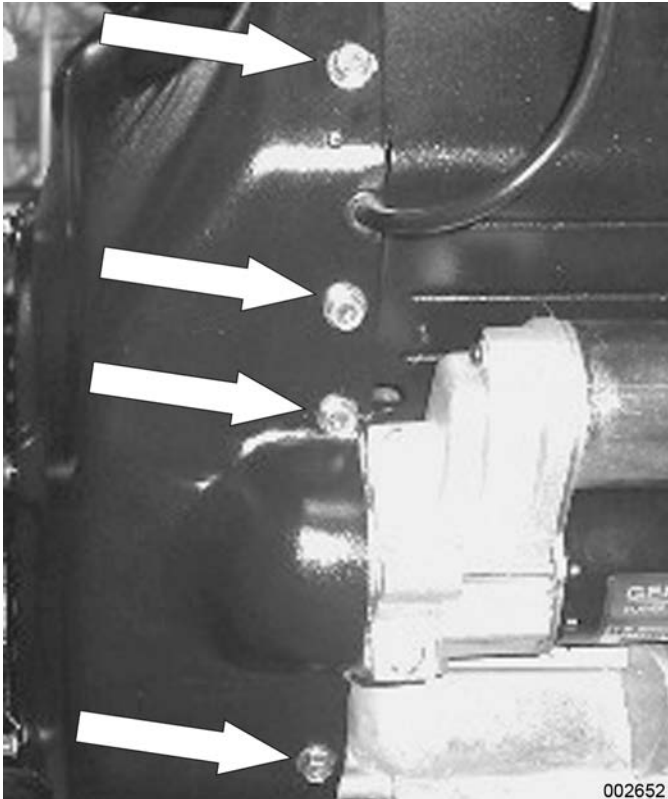

Figure 6-18.
19. See Figure 6-18. Use a 10mm socket to remove four 10mm bolts from the left-side of the blower housing.